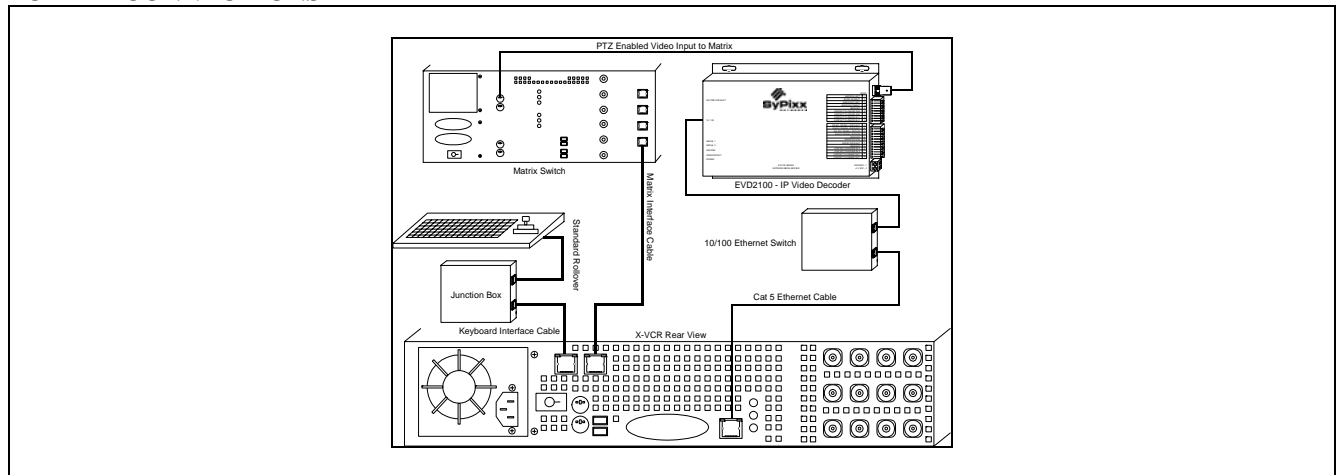

FIGURE 3
1. **Navigation Screen** - provides a graphical representation of the selected device. To configure a video, serial, or LAN port, click on the desired port. Once the desired element is chosen, the Properties Screen (see FIGURE 3) will reflect the current settings of the selected element and accept settings changes.